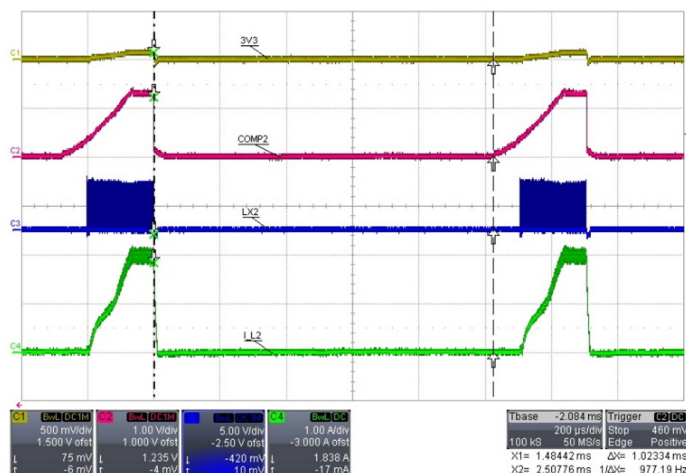

Figure 5: Synchronous buck hiccup mode operation when VOUT is shorted to GND, $f_{OSC} = 2$ MHz.
5. Hiccup short-circuit protection, shown in Figure 5
For the synchronous buck, hiccup mode is enabled during soft-start after $t_{HIC2(EN)} f_{OSC}$ cycles (512). If $V_{FB(ADJ)}$ is less than 200 mV_{TYP}, the number of overcurrent pulses (OCP) is limited to only 32. If $V_{FB(ADJ)}$ is greater than 200 mV_{TYP}, the number of OCP pulses is increased to 120 to accommodate the possibility of starting into a relatively high output capacitance. The time between restart attempts or the hiccup recovery time is $t_{HIC2(REC)}$ ($2048 f_{OSC}$ cycles), as indicated by the cursors in Figure 5.